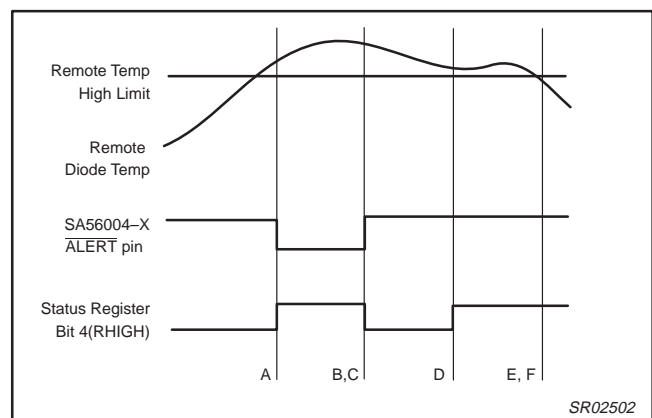

Figure 13. ALERT output in Interrupt Mode
In the interrupt mode, the ALERT output is used to provide an interrupt signal that remains asserted until the interrupt service routine has elapsed. In the interrupt operating mode, a read of the Status register will set the ALERT mask bit 7 of the Configuration register if any of the temperature alarm bits of the status register is set with exception of BUSY (D7) and OPEN (D2). This protocol prevents further ALERT output triggering until the master device has reset the ALERT mask bit at the end of the interrupt service routine. The Status register bits are cleared only upon a read of the status register by the serial bus master (See Figure 13). In order for the ALERT output to be used as an interrupt, the ALERT Configure bit D0 of the ALERT Mode (AM) register must be set LOW. Note, this is the POR default.